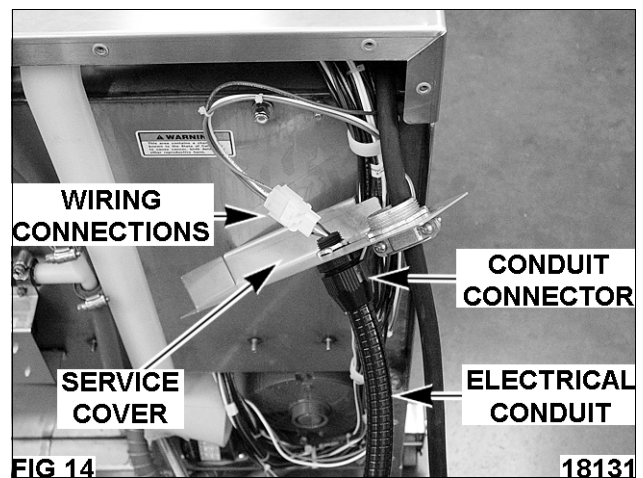

FIG 14 18131
4. Replace existing service cover with one supplied in kit (919277). The power cord will have to be disconnected from the contactor in the control drawer to replace the existing service cover. Assemble the electrical conduit connector to the service cover per Fig 14.
5. Attach electrical conduit to connector and run cold water valve wire harness (919862) through conduit per Fig 14. Make wiring harness connection per Fig 14. Replace valve cover. Attach service cover to dishwasher after all connections have been completed.
- Connect harness ground wire to grounding point on base of dishwasher per Fig. 14.